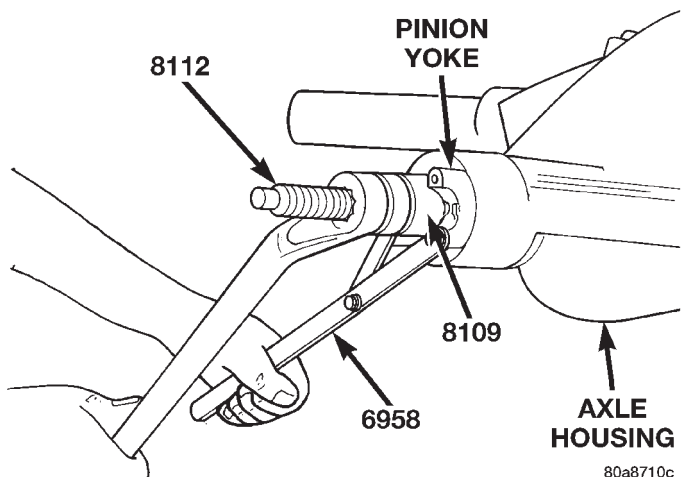

Fig. 45 Pinion Yoke Installation
- (10) Install pinion gear in housing.
- (11) Install yoke with Installer Screw 8112, Cup 8109, and holder 6958 (Fig. 45).
- (12) Install the yoke washer and a new nut on the pinion gear and tighten the pinion nut until there is zero bearing end-play.
- (13) Tighten the nut to 271 N·m (200 ft. lbs.).